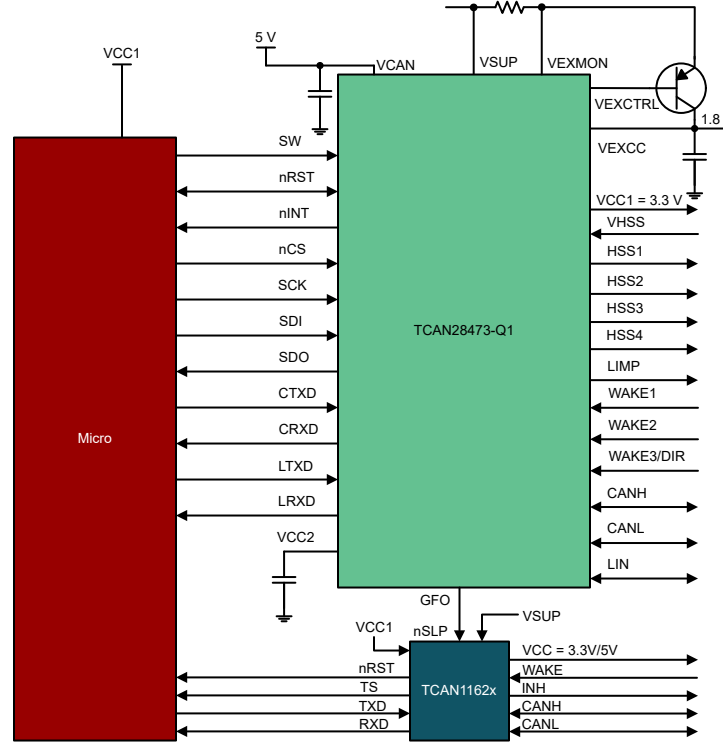

Figure 10-7. Channel Expansion with a CAN FD SBC
- A second SBC with a CAN transceiver can be implemented by using the TCAN2847x-Q1 and the TCAN1162x, see Figure 10-7
Section 10.1.3.2 show high level diagrams on how the TCAN2844x-Q1 can control an external CAN FD transceiver. As the LDO turns off in sleep mode or in various fault conditions like thermal shut down, the CAN FD transceiver has the power shut off. To configure the TCAN284x-Q1 to control the CAN FD transceivers the following register and bits need to be configured. If the 5V variant shows VCC2 is used to power the CAN FD transceiver but VCC1 can also be used. A simple CAN SBC can also provide a second CAN transceiver as shown in Figure 10-7